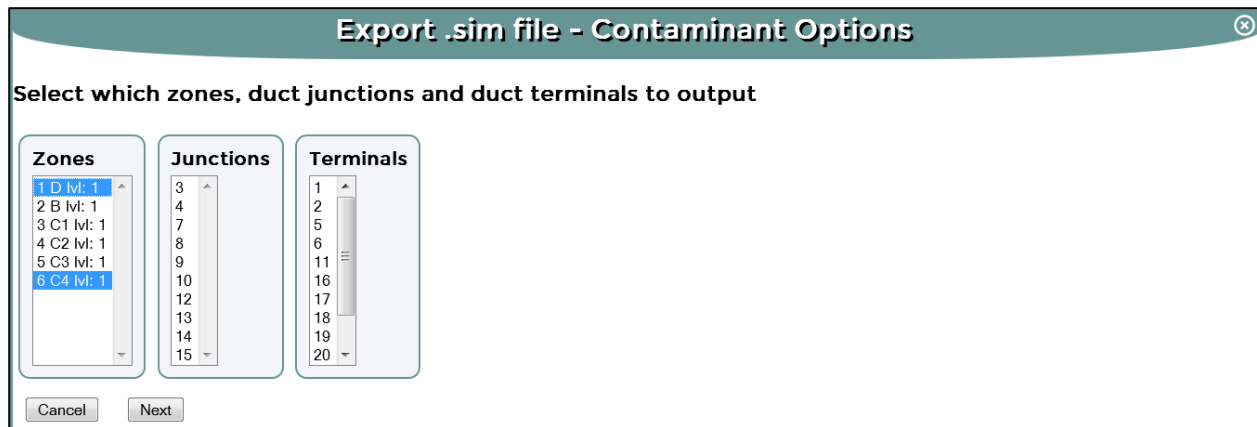

Figure 5. Output contaminant results (zone, junction, and/or terminal selection)
4. Select the zones, duct junctions and/or duct terminals for which to output contaminant concentrations. You must select at least one item (Figure 5).
8. Select the zones, duct junctions and/or duct terminals for which ambient and/or zone results will be exported. You must select at least one item (Figure 5).
4. Select the zones, duct junctions and/or duct terminals for which averages are desired. This selection will be done twice if both temporal and spatial averages are selected in the previous step. You must select at least one item (Figure 5).